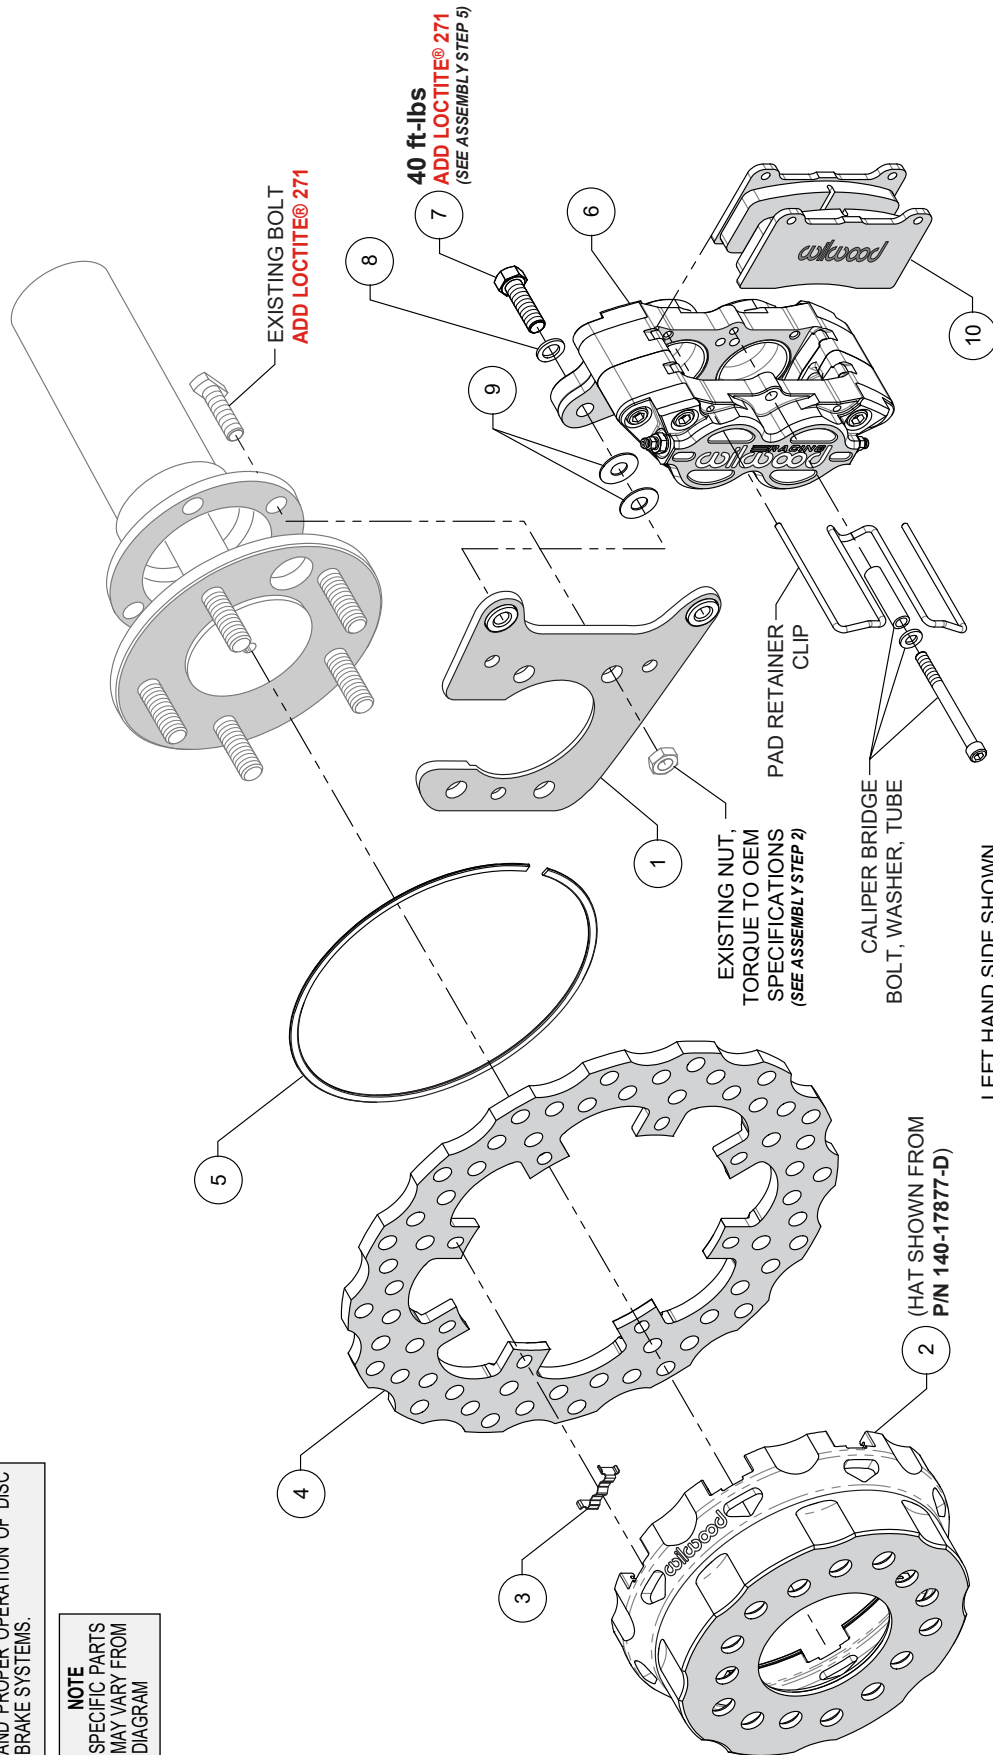
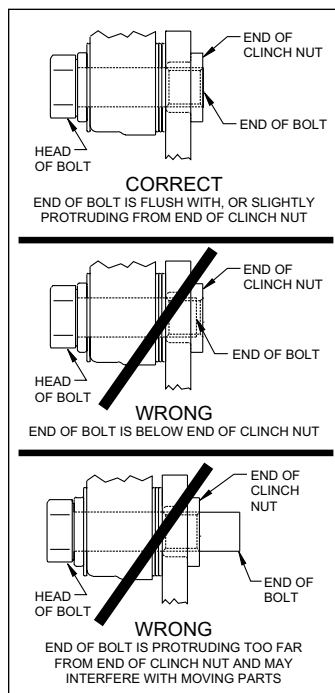
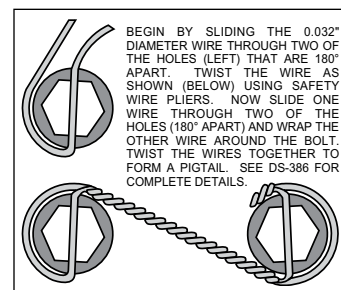

Figure 1. Typical Installation Configuration
Figure 4. Clinch Nut Engagement Diagram
Figure 5. Safety Wire Diagram
Numbers in parenthesis refer to the parts list and Figure 1 on the preceding pages.
CAUTION: All mounting bolts must fully engage clinch nuts. Be sure to check that all bolts are either flush or protruding through flanged side of clinch nut after shimming, Figure 4.
STEP 2 Install the caliper mounting bracket (1), with the slot for the axle pointing upward, to the housing flange using the OEM bolts and nuts, as shown in Figure 1 and Photo 1. Ensure that the heads of the clinch nuts are facing outboard, Photo 1. Apply red *Loctite*® 271 to the OEM bolt threads and torque nuts to OEM specifications.
STEP 3 Insert the dynamic mount wear clips (3) into the slots in the hat (2), Photo 2. Orient the rotor (4) as shown in Figure 1 and Photo 3 with the flush side of mount lugs facing the hat. Secure the rotor to the hat using the snap ring (5) by simultaneously pushing down on the rotor and installing the ring into the groove in the hat, as shown in Photos 3 and 4. **Carefully inspect snap ring to ensure complete engagement in the groove.**
STEP 5 NOTE: Please reference the caution statement at the beginning of the assembly instructions. Mount the caliper (6) onto the mounting bracket (1) using bolts (7) and washers (8), as shown in Figure 1. Initially place two .035" thick shims (9) on each bolt between the caliper and the bracket, Photo 6. Temporarily tighten the mounting bolts and view the rotor (4) through the top opening of caliper. The rotor should be centered in the caliper, Photo 7. If not, adjust the caliper by adding or subtracting shims (9) between the bracket and the caliper. Always use the same amount of shims on each of the two mounting bolts. **NOTE:** The end of each bolt must be flush with or slightly protruding from the head of the clinch nut. If necessary, place spare shims between washer and caliper mounting ear to achieve the proper clinch nut engagement, as shown in Figure 4. Once the caliper alignment and clinch nut engagement are correct, remove the bolts (7) one at a time, apply red *Loctite*® 271 to the threads, and torque to value shown in Figure 1. For an added measure of security, the bolts may be safety wired using standard 0.032 inch diameter stainless steel safety wire as shown in Figure 5. Please refer to Wilwood's data sheet DS-386 (available at www.wilwood.com/Pdf/DataSheets/ds386.pdf) for complete safety wire installation instructions.
STEP 6 Remove the caliper bridge bolt, washer, tube, and pad retainer clip from the caliper, Figure 1. Insert the brake pads (10) into the caliper with the friction material facing the rotor (4), Photo 8. Secure in place using the pad retainer clip and reinstall the bridge bolt, washer, and tube, Photo 9. The bolt should be snug without play in the tube. Be cautious not to over tighten.